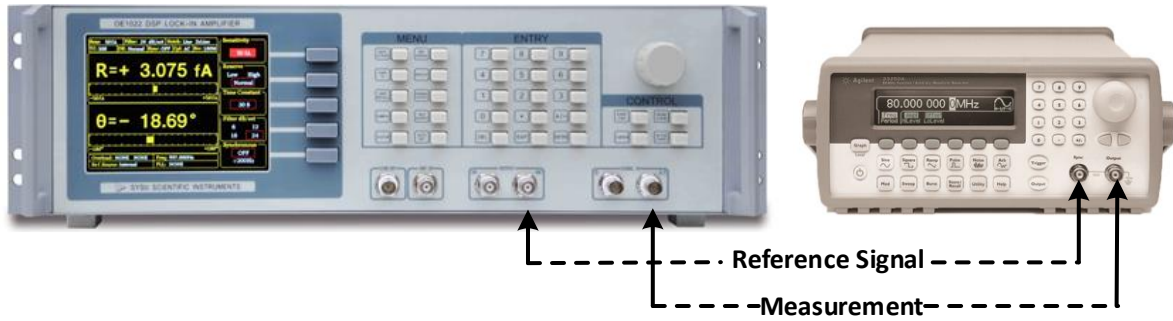

Fig.94 Signal Cable Connect Diagram
2. Use a BNC cable to connect the output of the function signal generator and the A/I input of the OE2041. Use another BNC cable to connect the reference signal of the function signal generator and the REF IN of OE2041, as is shown in Fig.94.